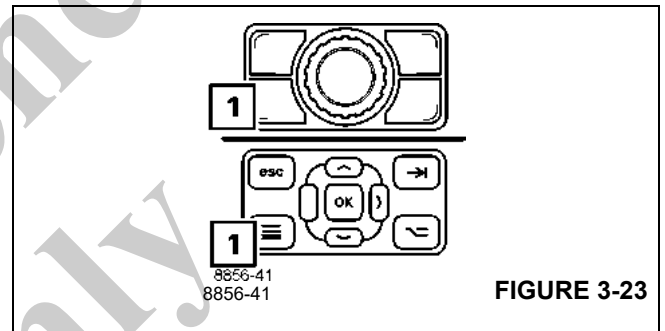

FIGURE 3-23
To change the displayed menu, press the button (1), (Figure 3-23).